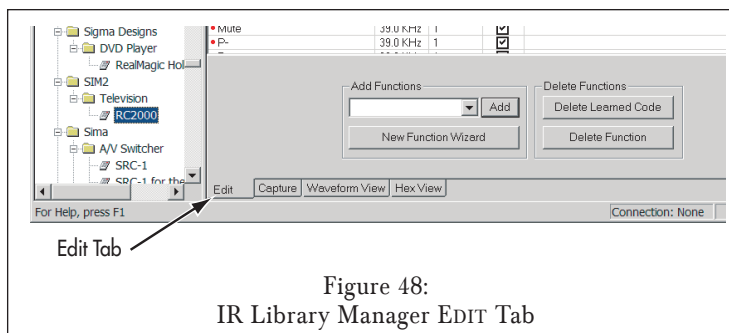

Figure 48:
2. Click on the EDIT tab. The remote's functions will appear in the main part of the screen (see *Figure 48*).